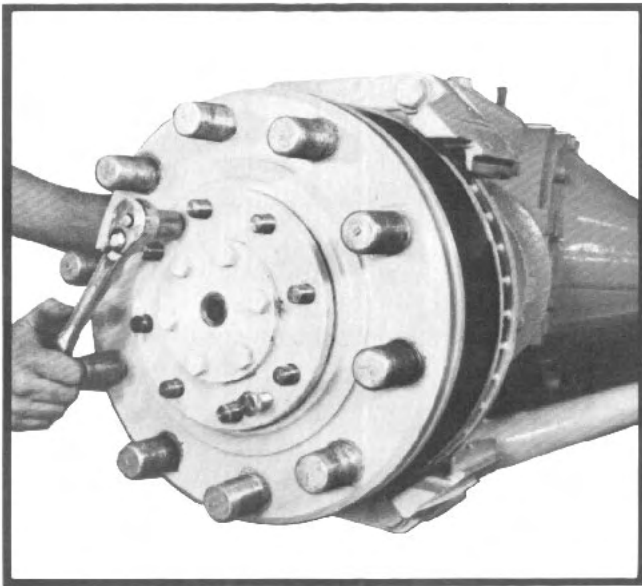

Fig. 9
3. Install two 1/2-13 bolts in drive flange extractor bolt holes and tighten bolts to remove flange from yoke shaft spline (See fig. 9). Note: If the wheel bearings are oil lubricated there will be a loss of oil from inside the hub when the drive flange is removed. Be sure to take the necessary precautions.
4. Remove the yoke shaft retaining locknut from the center of the yoke shaft retaining cap. Early axles were equipped with a capscrew that retained the yoke shaft. (The photographs in this manual are of an early axle.) Remove nuts holding outer drive flange to the wheel hub (see fig. 9).
5. Install two ½-13 bolts in drive flange extractor bolt holes and tighten bolts to remove flange from yoke shaft spline (see fig. 9). Note: If the wheel bearings are oil lubricated there will be a loss of oil from inside the hub when the drive flange is removed. Be sure to take the necessary precautions.
3. Install two 1/2-13 bolts in drive flange extractor bolt holes and tighten bolts to remove flange. (See fig. 9, page 10.)